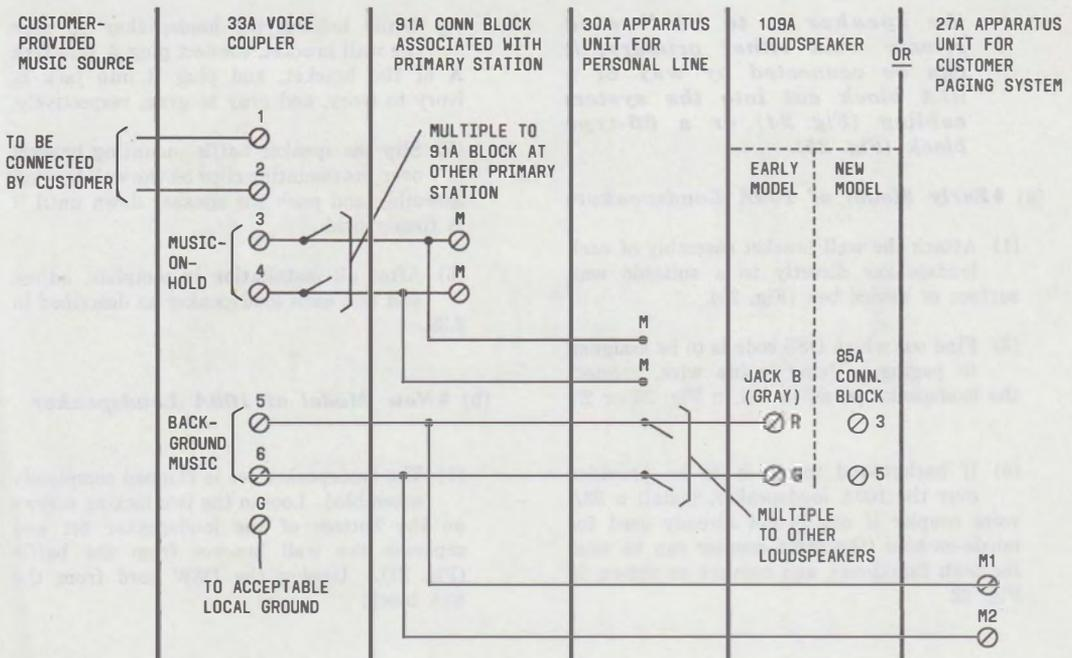

Fig. 22—Connections for Music-On-Hold and Background Music
- (c) Connect terminals 3 and 4 of the coupler to the primary stations by way of the two M terminals of the 91A connecting blocks using inside wire (Fig. 22).
- (3) If background music is to be provided over the 109A loudspeaker, install a 33A voice coupler if one is not already used for music-on-hold (the same coupler can be used for both functions), and connect as shown in Fig. 22.
- (4) If background music is to be provided over the 109A loudspeaker, install a 33A voice coupler if one is not already used for music-on-hold (the same coupler can be used for both functions) and connect as shown in Fig. 22.
- (c) If background music is to be provided, install a 33A voice coupler if one is not already used for music-on-hold (one coupler will serve both functions). Connect screw terminals 5 and 6 of the coupler to screw terminals M1 and M2 of the 27A unit (Fig. 22 and 28).
- (1) Connect the red and green leads of the 107A to A1 and A2, respectively.
- (2) Connect the yellow and brown leads of the 107A to a 2012B power transformer plugged into a suitable ac outlet.